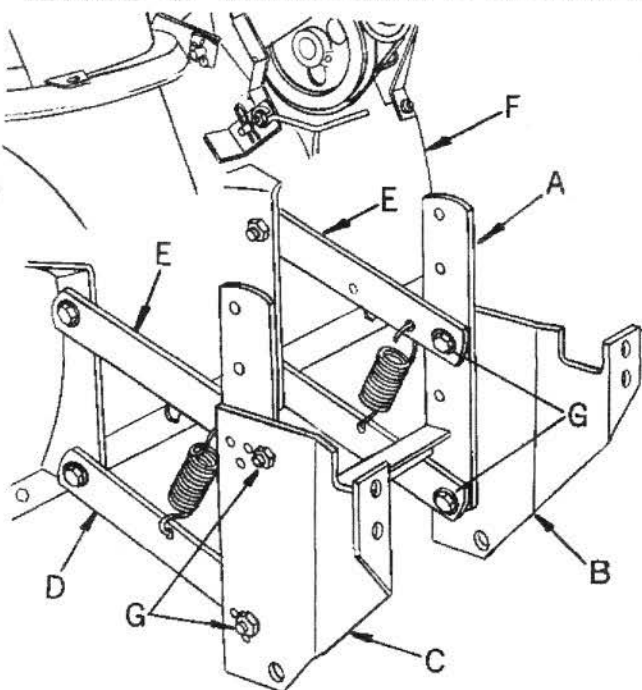

FIG. 2
3. Refer to Figure 2. Assemble upper swing bars (E) to housing assembly (F) as shown. Note: Bolt, washer, and bushing will go into upper swing frame then into housing bracket, and secure with gripco nuts. Bolts, washers, bushings, and nuts were in hole of housing bracket. Tighten nuts securely.
4. Remove nuts (G) from bolts in upper swing bars (E) swing frame-lower (D) and hanger bracket (A) assemble hanger bracket L.H. (C) and hanger bracket R.H. (B) as shown. Normally use top rear holes in hanger brackets as shown and secure with gripco nuts tighten securely. See Fig. 2.
5. Unhook springs from shipping position, and hook springs to rear holes in swing bars (E), and front holes in lower swing frame (D), as shown. See Figure 2.